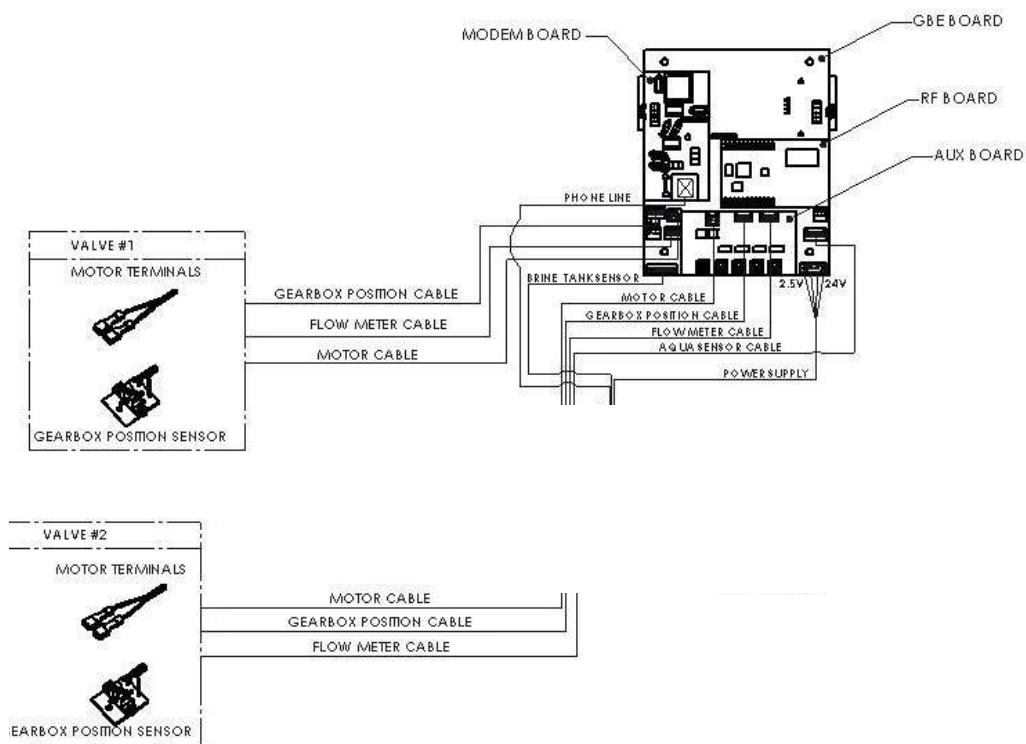

Figure 22. Circuit board connections.
8. Connect the motor cable, gear box position cable and meter cable from HE Twin Control #2 to the auxiliary board to the main circuit board (Figure 22).